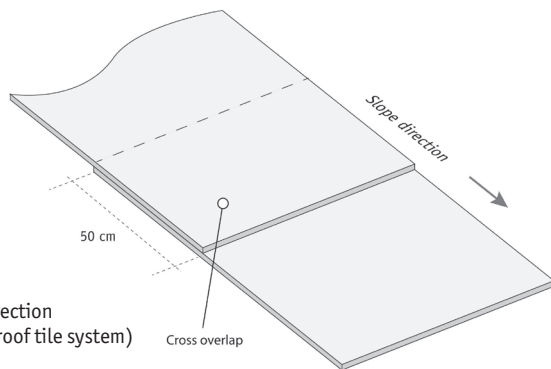

Fig. 7
14.2 On slopes with an inclination larger than 17% (9.65°; 1V:6H) and 3m length it is necessary to install Bentofix® in direction of the slope. In any cases the relative friction angles should be confirmed with shear box tests. Cross-overlaps are to be avoided. Should this not be possible, then cross-overlaps have to be in the direction of the water flow (Fig. 7; roof tile system).